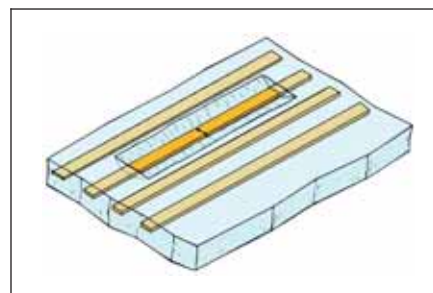

Figure 2 Laminate removed.
- Cut the laminate at a 45° angle along the bottom edge of the damaged conductor. Ends of laminate should be cut out at a 90° angle perpendicular to the conductor. The length of the laminate removed needs to allow a minimum of 1/2 inch (1.3 cm) overlap on both sides of the damaged conductor area plus room for the end fillets on both sides of the replacement conductor. (Laminate Removal = Damaged Area + End Fillets + 1 inch (2.5 cm).) (See Figure 2.)